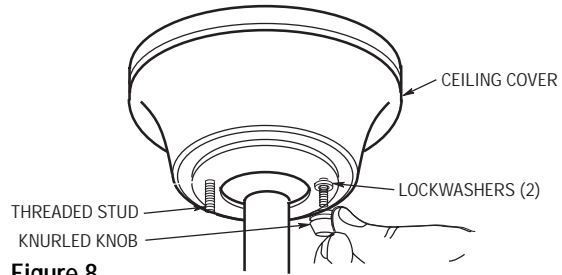

Figure 8
- 4. Lift the ceiling cover up to the threaded studs and turn until studs protrude through the holes in the ceiling cover (Figure 8).
- 5. Secure the ceiling cover in place by sliding lockwashers over the threaded studs and installing the two knurled knobs (supplied). (Figure 8). Tighten the knurled knobs securely until the ceiling cover fits snugly against the ceiling and the hole in the ceiling cover is clear of the downrod. Your fan is now wired to be turned on and off from the fan switch.